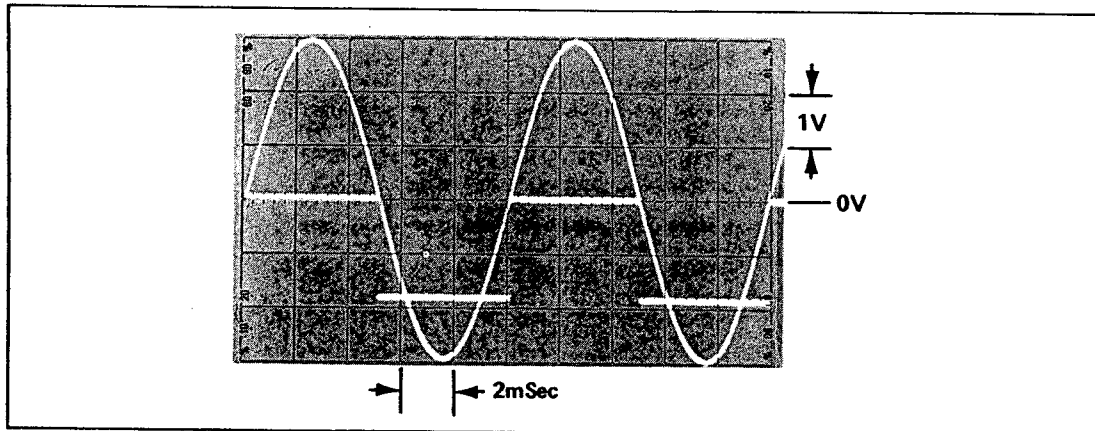

Figure 4-23. Triggering Level Test Waveforms — I
- e. Adjust the Oscilloscope's Channel "B" controls so the top of the Model 5328B's Channel "A" MARKER OUTPUT waveform just barely intersects the positive-slewing and negative-slewing portions of the 100 Hz sine wave as shown in *Figure 4-23*. Verify that this occurs at zero volts on the 100-Hz sine wave.
- g. Adjust the Oscilloscope's Channel "B" controls so the top of the Model 5328B's Channel "B" MARKER OUTPUT waveform just barely intersects the positive-slewing and negative-slewing portions of the 100 Hz sine wave as shown in *Figure 4-23*. Verify that this occurs at zero volts on the 100-Hz sine wave.